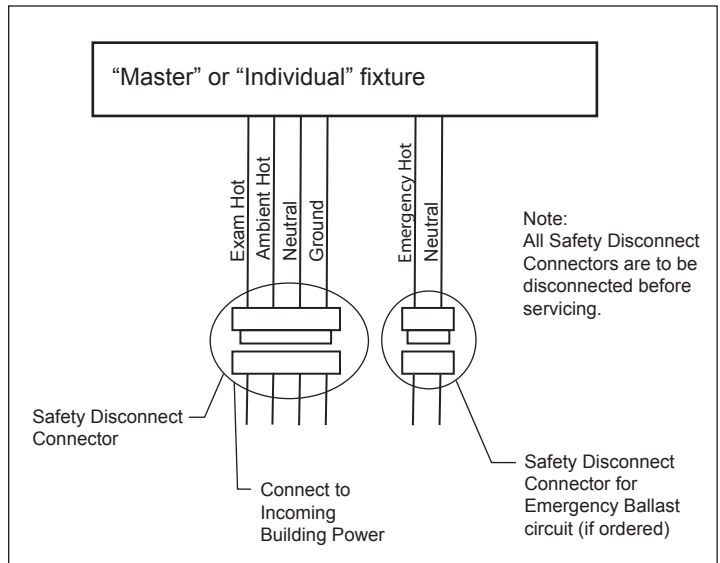

Figure 1
- * For 277V installations, disconnect the orange safety disconnect plug(s) (located in the wireway compartment) to fully disconnect power to the fixture before servicing. (See Figure 1)
2. Secure the FMC with the incoming power to the knockout on the wiring compartment cover with the appropriate conduit connector. Locate the leads for the ambient load and the exam load. (These leads are tagged for easy identification.) If an emergency ballast option has been ordered, an additional set of leads will be marked "Emergency". Working with only the "Ambient" and "Exam" leads, make all necessary electrical connections with Incoming Hot connected to the appropriate black lead, Incoming Neutral connected to the appropriate white leads, and Incoming Ground connected to the appropriate green leads. (See Figure 1)
Note: There is a safety disconnect plug(s) installed between the ballast and the incoming power. This plug(s) must remain accessible from inside the fixture housing. Refer to Figure 1 for further details.
1. Locate the connector in the wiring compartment labeled “Emergency Ballast” and identify the hot and neutral wiring pigtailed coming from the connector. Connect the unswitched building power hot to the black lead. Connect the building neutral to the white lead. (The emergency ballast must be fed from the same branch circuit as the AC ballast.) (See Figure 1)